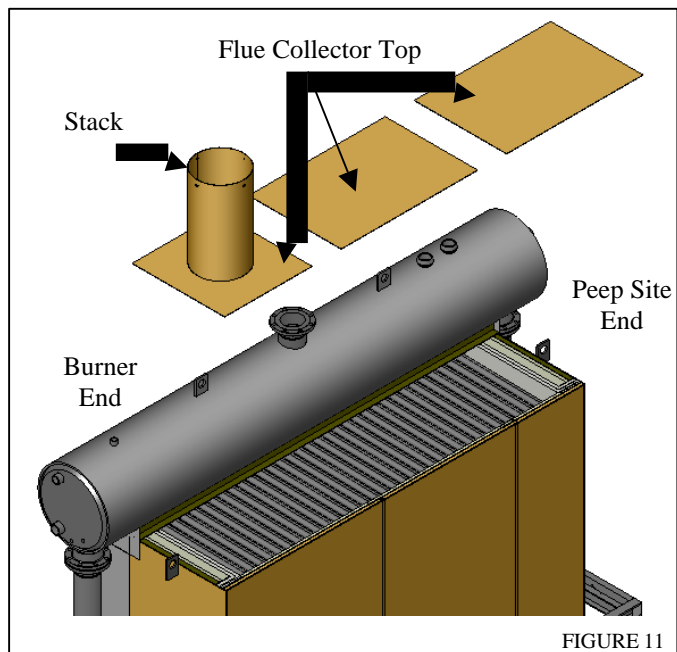

FIGURE 11
**3.11** The flue collector top sits on top of the flue collector box, panels overlapping. The stack goes toward the burner end of the flue box. See figure 11. The “T”-shaped baffle is welded to the bottom of the flue collector top and is located according to the placement of the first vertical baffle. See figure 8 & 9, page 6.